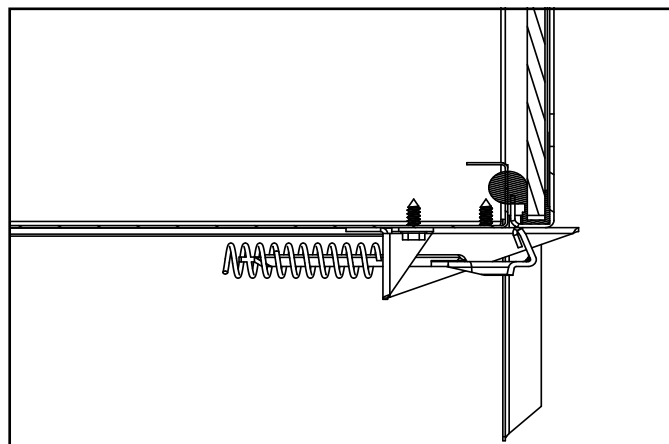

Figure 4.2. Fixed Glass Assembly
- The glass assembly fastens to the fireplace in four places. The four fastening mechanisms are spring-loaded glass latches. An example of the glass latch is shown in Figure 4.2.